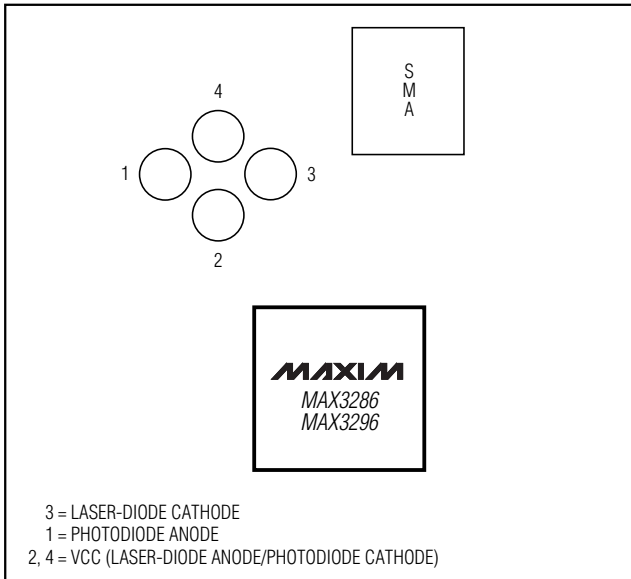

Figure 1. Optical Connection Diagram
- Make sure nothing is installed in the laser socket (Figure 1).
- Place jumpers across JU7 (EN), JU8 ( $\overline{\text{EN}}$ ), and JU9 (PORDLY).
- If you intend to power the board from a +5V supply, place a jumper across JU6 (LV). **Do not apply power yet.**
- Connect a laser to the board (Figure 1).